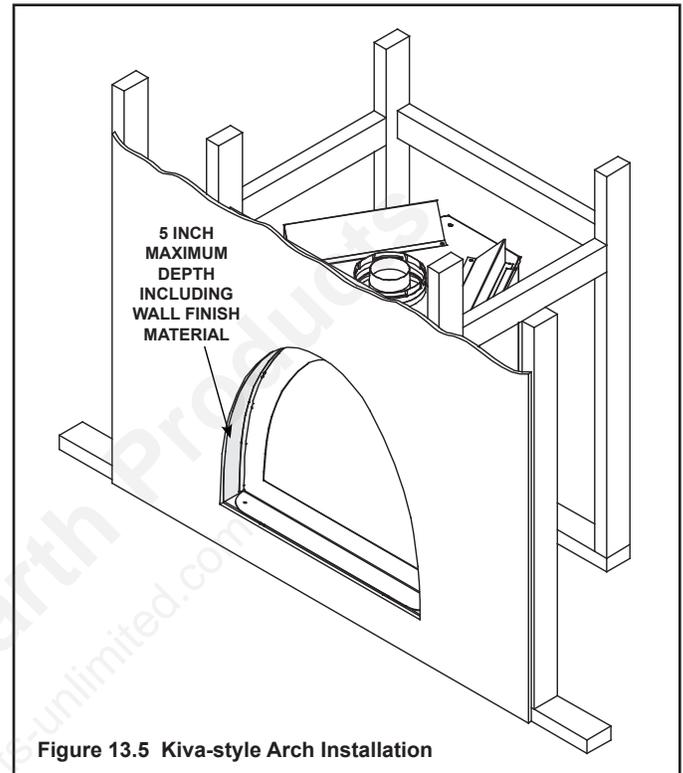

Figure 13.5 Kiva-style Arch Installation
The second installation option requires the construction of a kiva-style arch. This option recesses the appliance into the wall such that construction of a hearth is not necessary (see Figure 13.5).
- Framing depth increases from that shown in Figure 3.2, (Dimension C). Dimension C will vary depending on the depth of the desired kiva-style arch (see Figure 13.5).